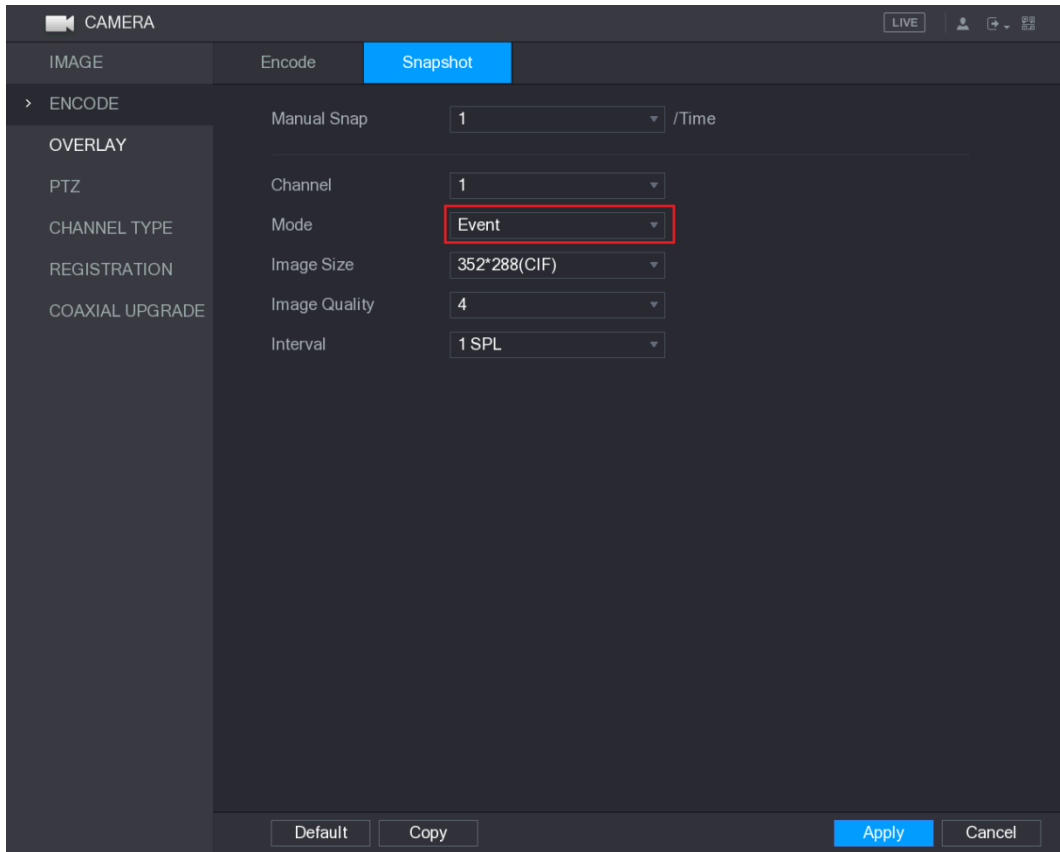

Figure 5-90
Step 2 In the **Mode** list, select **Event**, and then configure other parameters. See Figure 5-90.